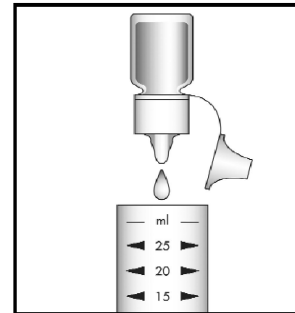

Figure 3
2. Add 5 drops of A-6000 Activator Solution (Figure 3). Stir briefly. Wait 4 minutes.